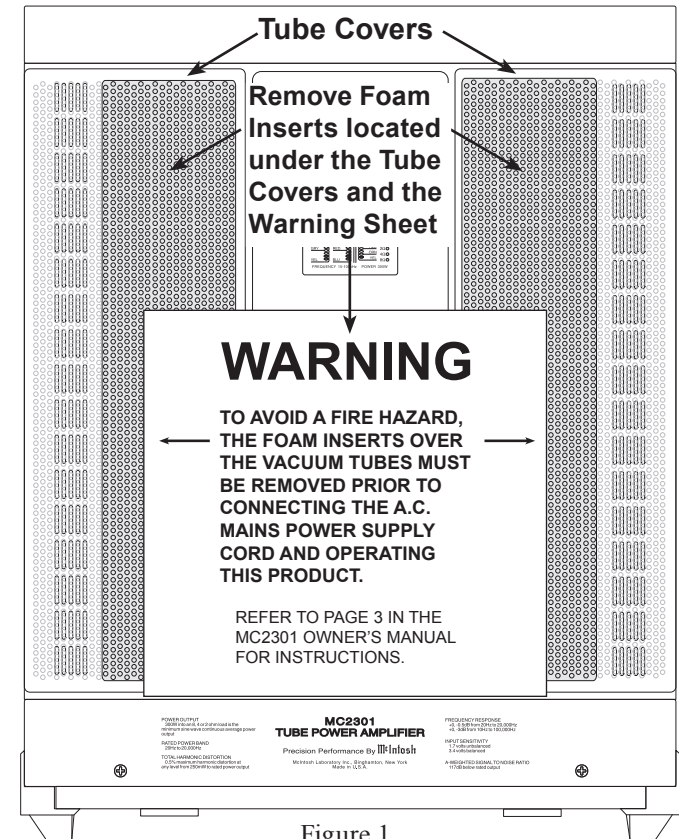

Figure 1
1. Orient the MC2301 so the Front Panel is facing you and remove the Warning Sheet. Refer to figure 1.